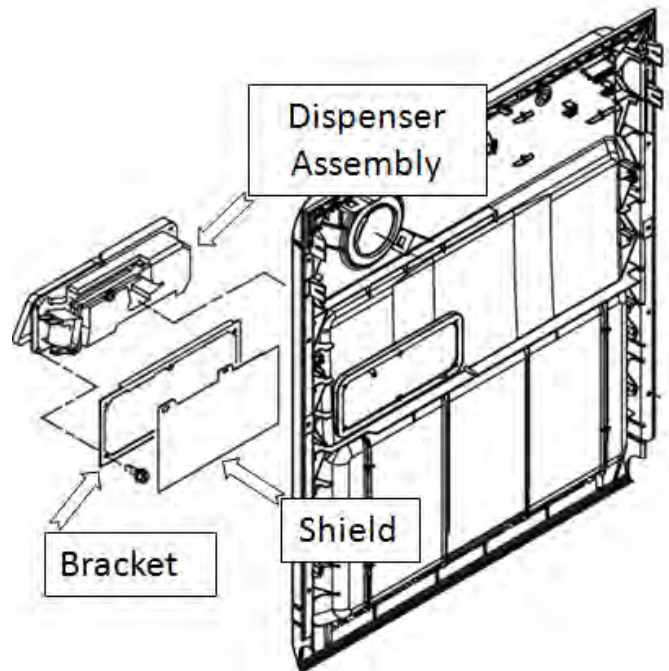

Figure 2
5. Remove dispenser assembly, bracket and shield, see figure 2